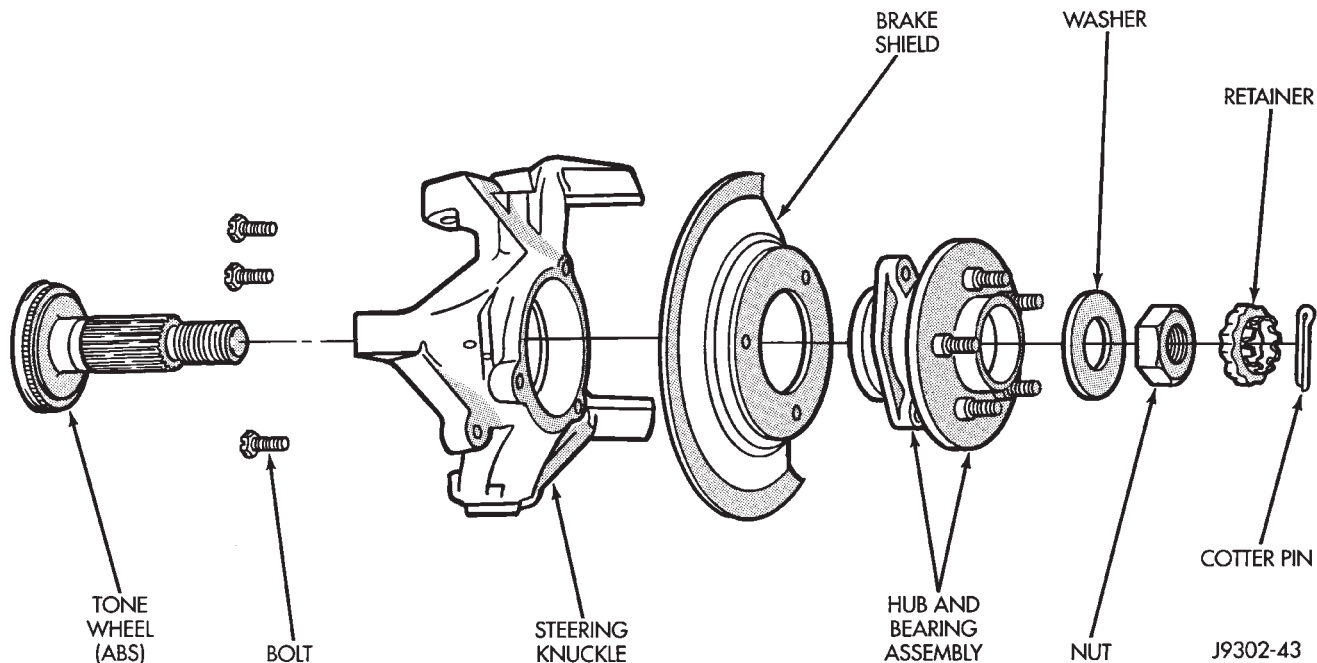

Fig. 9 Hub Bearing & Knuckle
(1) Raise and support the vehicle.
(2) Remove the wheel and tire assembly.
(3) Remove the brake components from the axle, refer to Group 5 Brakes.
(4) Remove the cotter pin, nut retainer and axle hub nut (Fig. 9).
(5) Remove the hub mounting bolts and remove hub bearing from the steering knuckle and axle shaft.